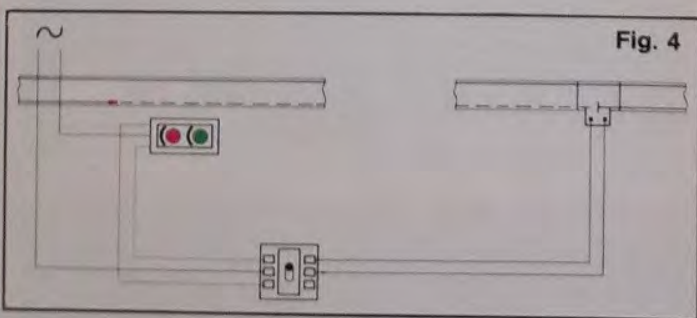

Fig. 4
- installation of a signal to control a single section (figure 4);